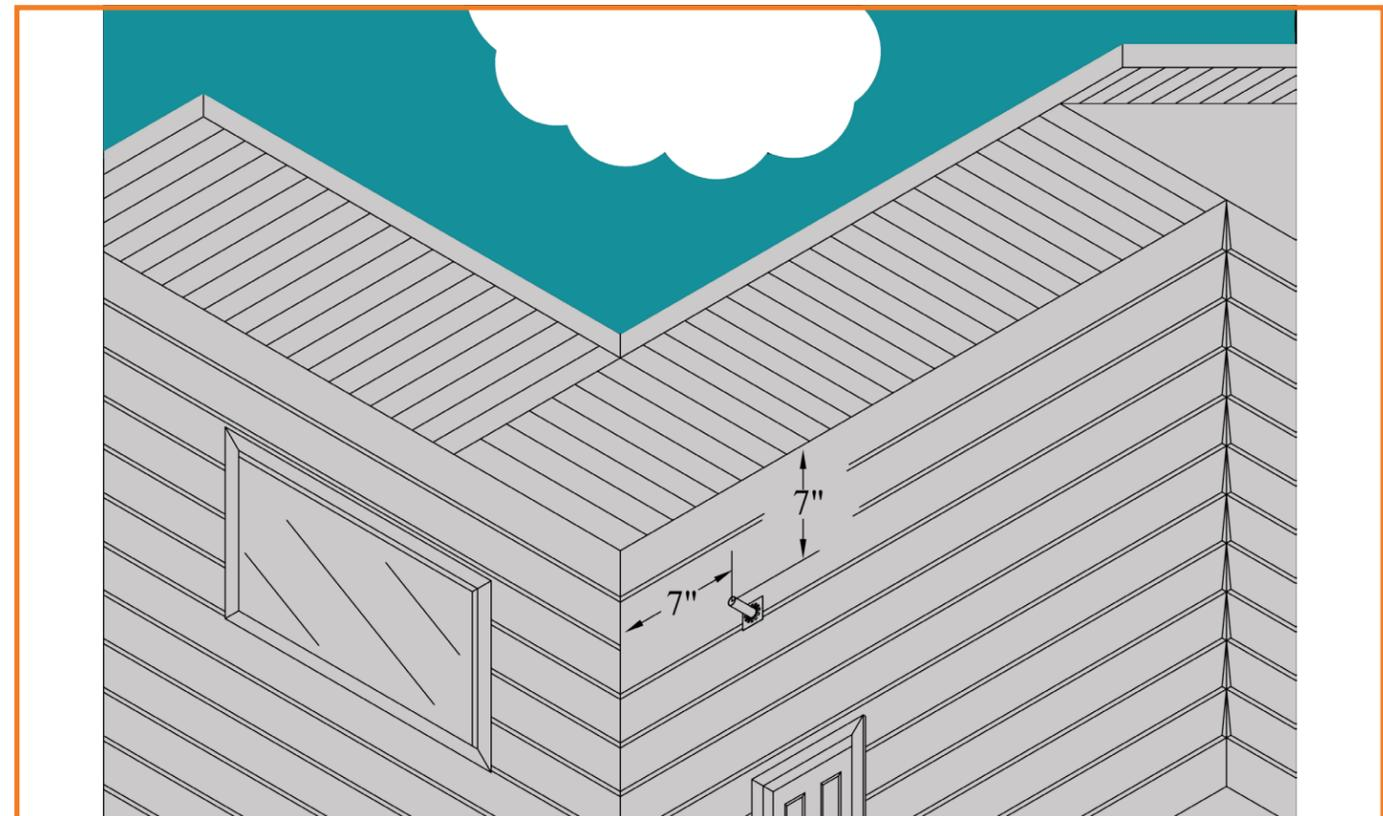
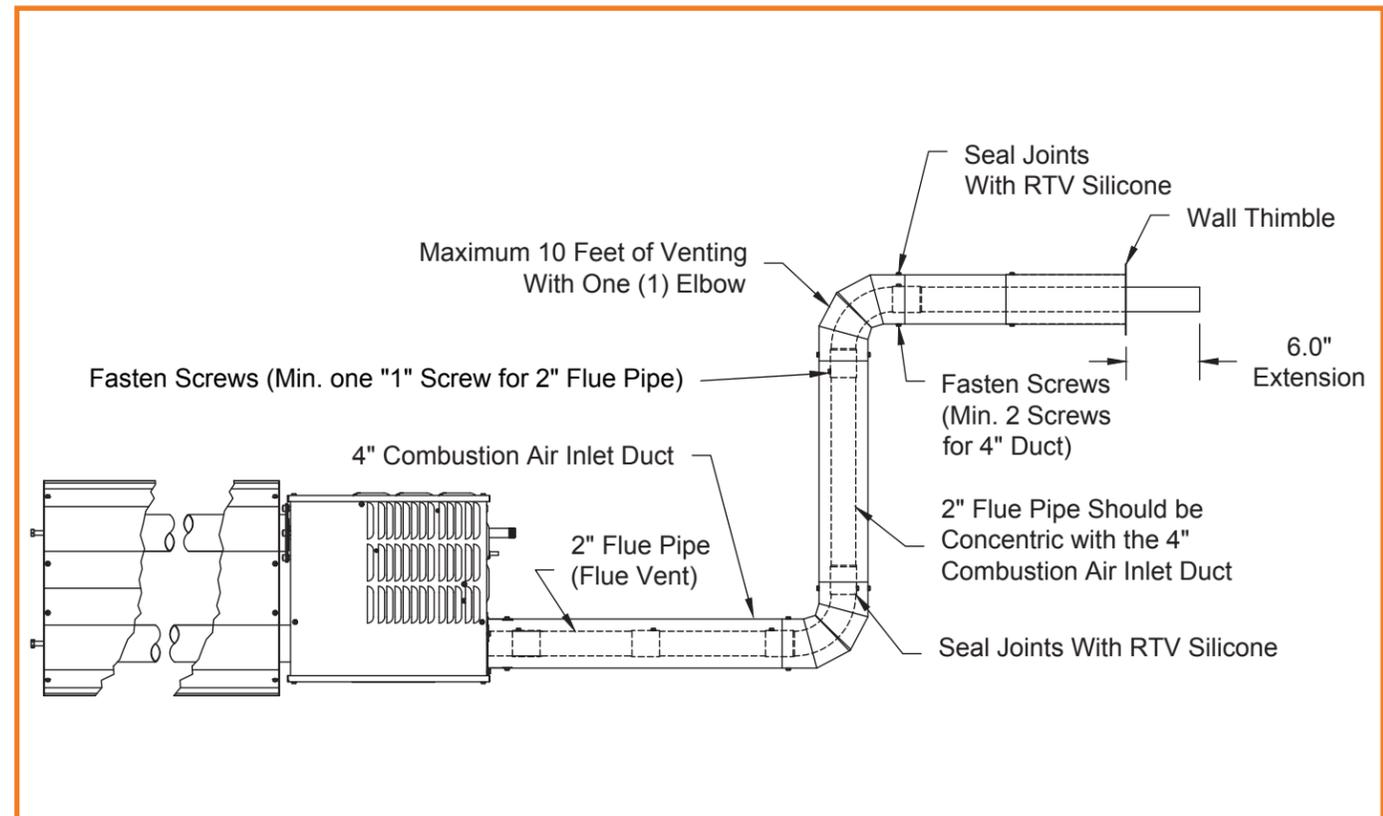

Figure 10: Minimum Clearance under an Eave
Figure 11: Venting & Combustion Air Ducting
- The 2" inch flue pipe should extend a minimum of 6" inches beyond the end of the 4" inch wall terminal (for horizontally vented heaters only see Figure 11). Where the vent is under an eave the 2" vent pipe must have a minimum clearance of 7" from the centerline of the vent to the bottom of the eave, refer to Figure 10. However, when the 2" pipe is less than 18" from the bottom of the eave, we recommend the 2" inch flue extend just beyond the eave to prevent the possibility of frost. (Adhere to any code requirements for clearances to opening in the building).
- The 2"-inch flue vent is inside (concentric with) the 4" inch combustion air inlet duct. Each of the former must be seamless and all joints must be fastened with screws and sealed with GE RTV-106 high temperature sealant (or equivalent) refer to Figure 11. The exposed 4" combustion air intake pipe is zero clearance throughout its length.